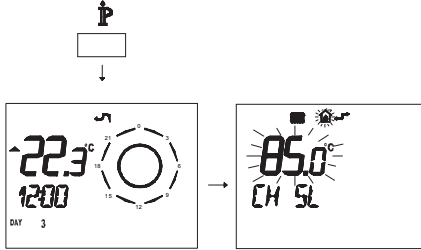

Fig. 7.39
- Press button  $\mathbb{P}$  for more than 3 seconds to enter in *INFO* mode (Fig. 7.39).